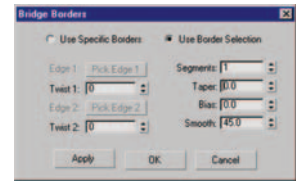
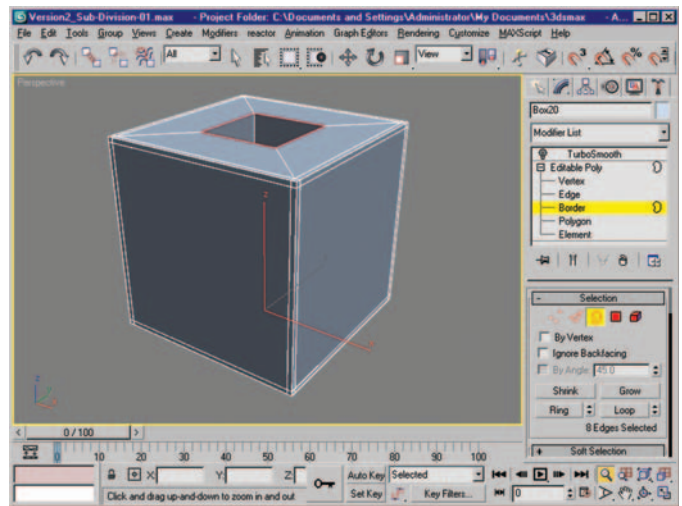

Figure 6.26 Bridge dialog box.
Figure 6.27 Bridged border selection.
4. Using the Bridge function, we are going to bridge the gap between the open borders. Select the two borders that were created when you deleted the polygons. With the borders selected, click the Bridge settings box. Figure 6.26 shows the Bridge dialog box. Figure 6.27 shows the bridged border selection.